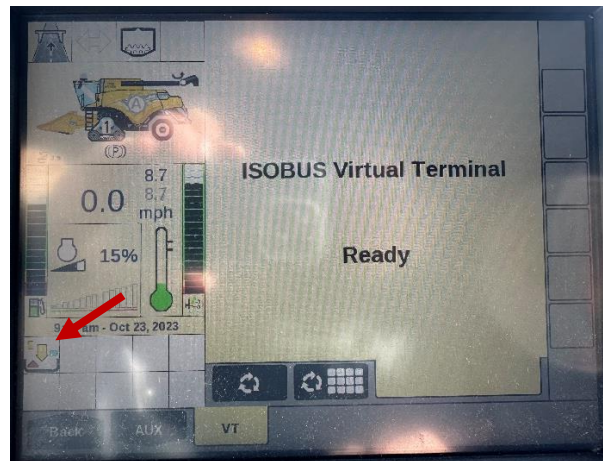

Figure 7.3: Case and New Holland VT Page
4. For the first power-on cycle after hooking up the system, it could take up to five minutes to load the ISOBUS application. During the loading process, leave the machine keyed on. You will see the “loading object pool” icon appear in the lower left section of the display (shown in Figure 7.3).